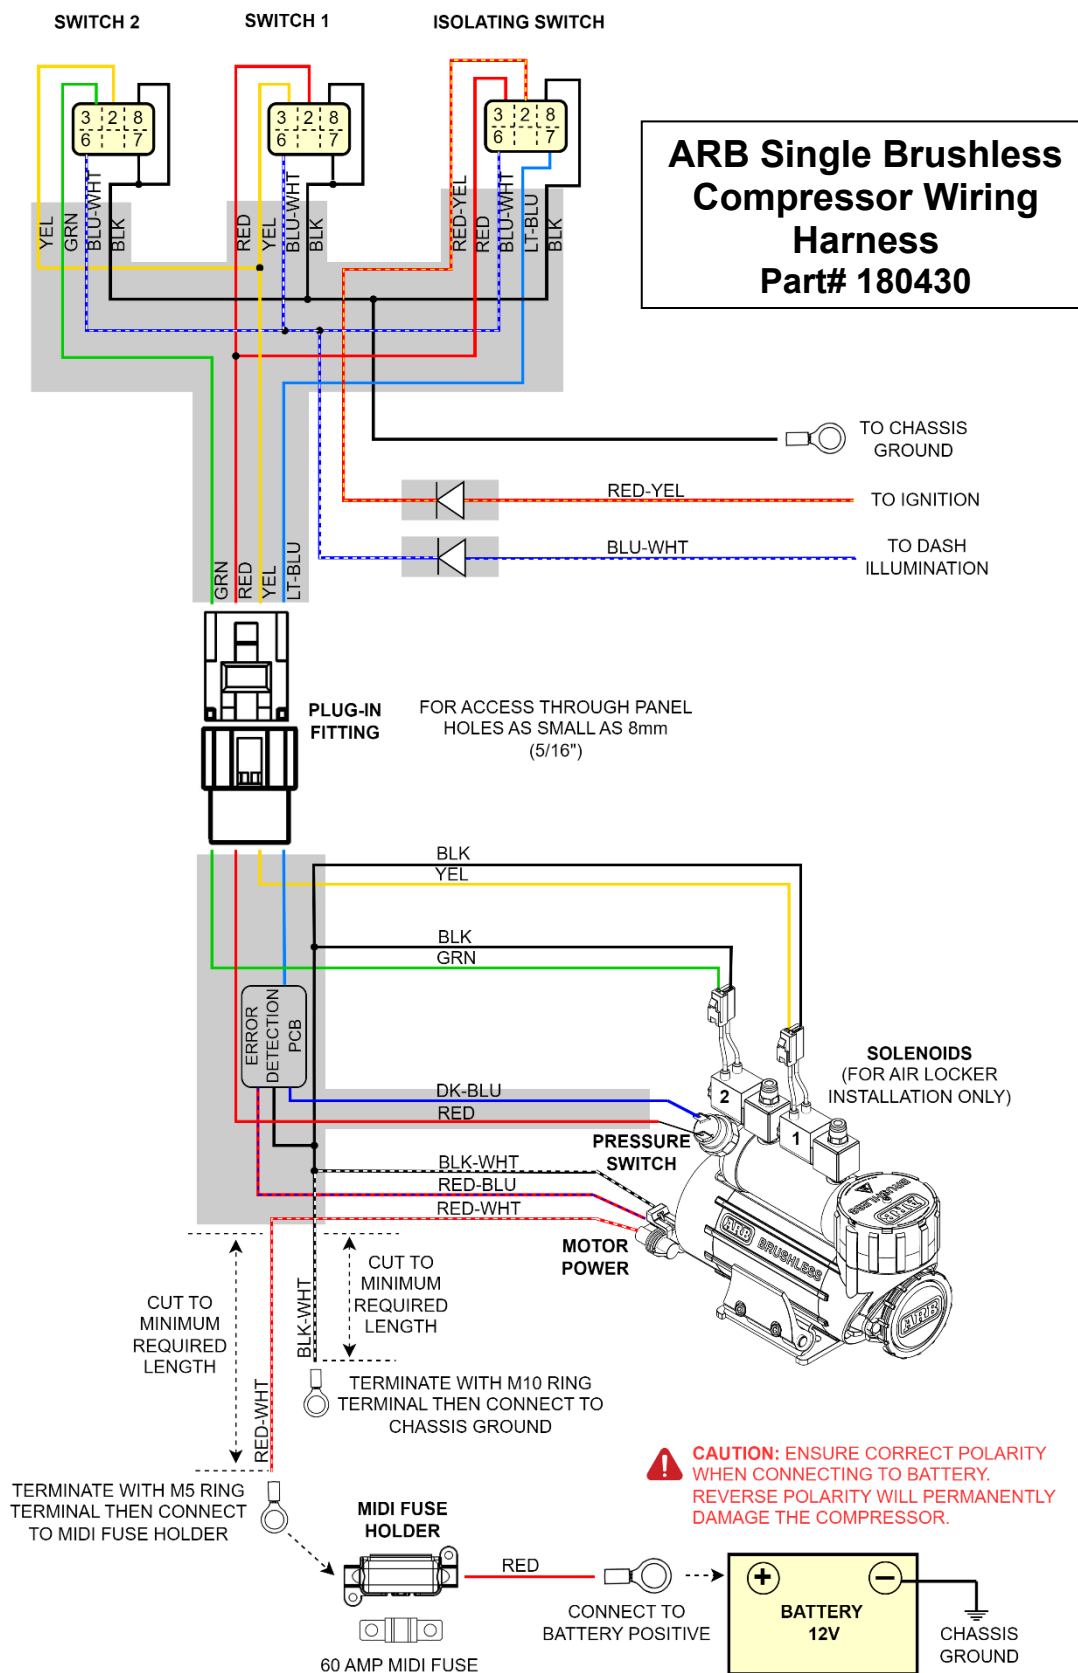
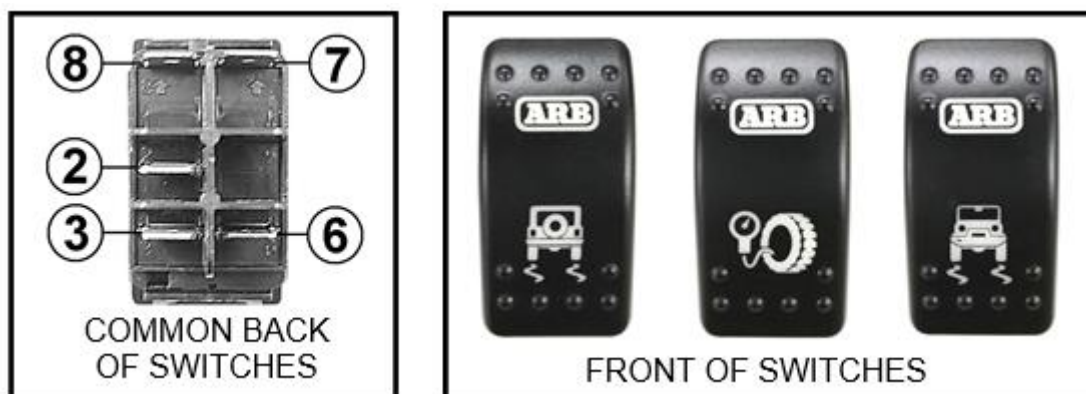

Figure 16. CKBLA12 Air Compressor wiring diagram (180430)
Figure 17. Switch terminal designations
Connect the Red, Red/Yellow, and Black wires in the same way as the original switch. Do not connect the Blue/White and Light Blue wires. These are connected to terminals six and seven on the original switch (see Figure 16).
- ☐ Consulting the wiring diagram (Figure 16) for wire colours, and the switch terminal illustration (Figure 17), plug each of the female spade terminals onto their appropriate switch terminal.